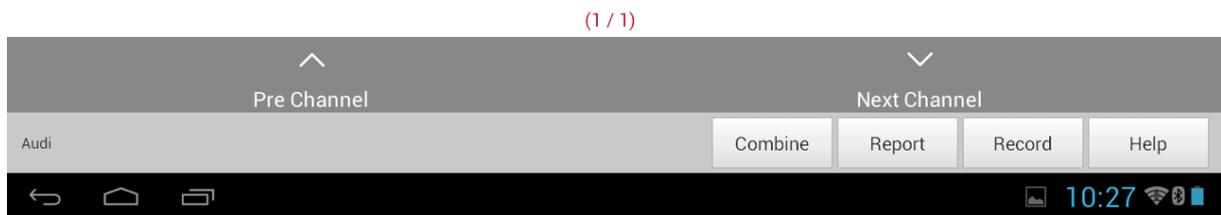
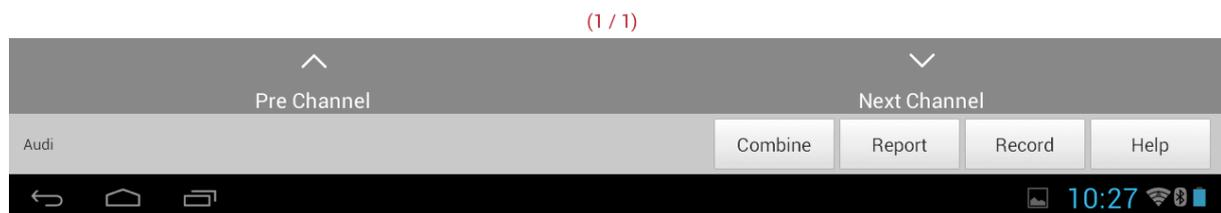
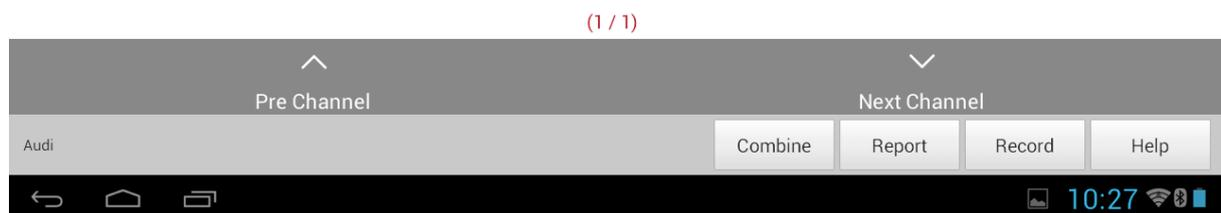

Figure 2 FL tire status
Figure 4 RL tire status
Figure 5 RR tire status
5) To locate the faulty tire pressure sensor, read data streams for the FL, FR, RL, and RR tire pressure sensors. See Figure 2, Figure 3, Figure 4, and Figure 5.